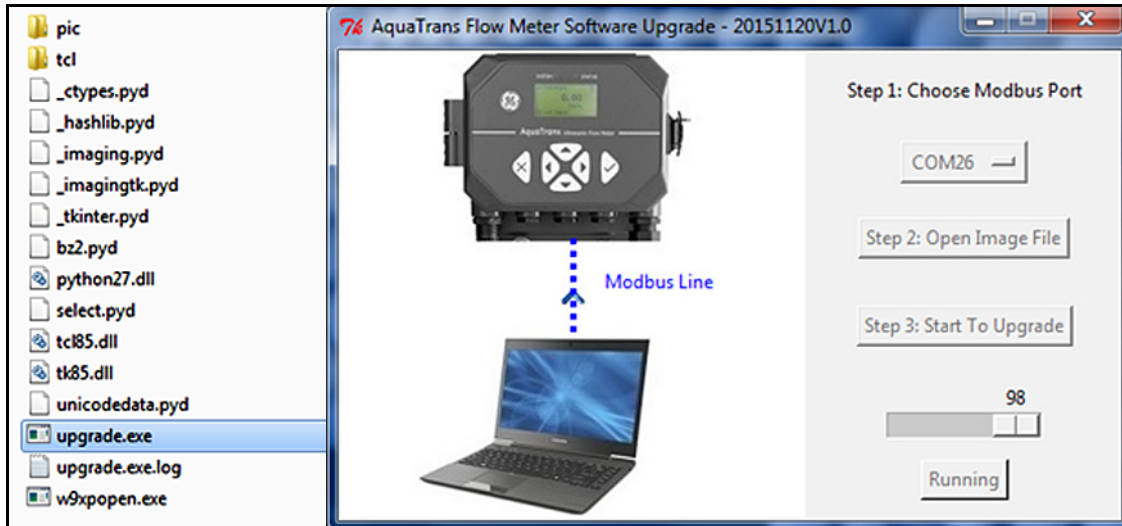

Figure 37: Running the Update.exe Software
- Run the update software by clicking on the **Upgrade.exe** file (see *Figure 37* below). Installation of the software on the PC is not required.